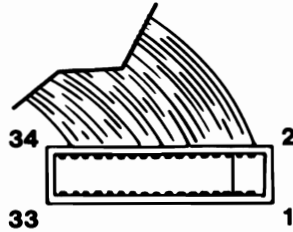

Figure 19. Signal Cable Voltage Check
- Monitor the voltage at pin 34 (diskette drive A end) of the signal cable (Figure 19 on page 0600-26).